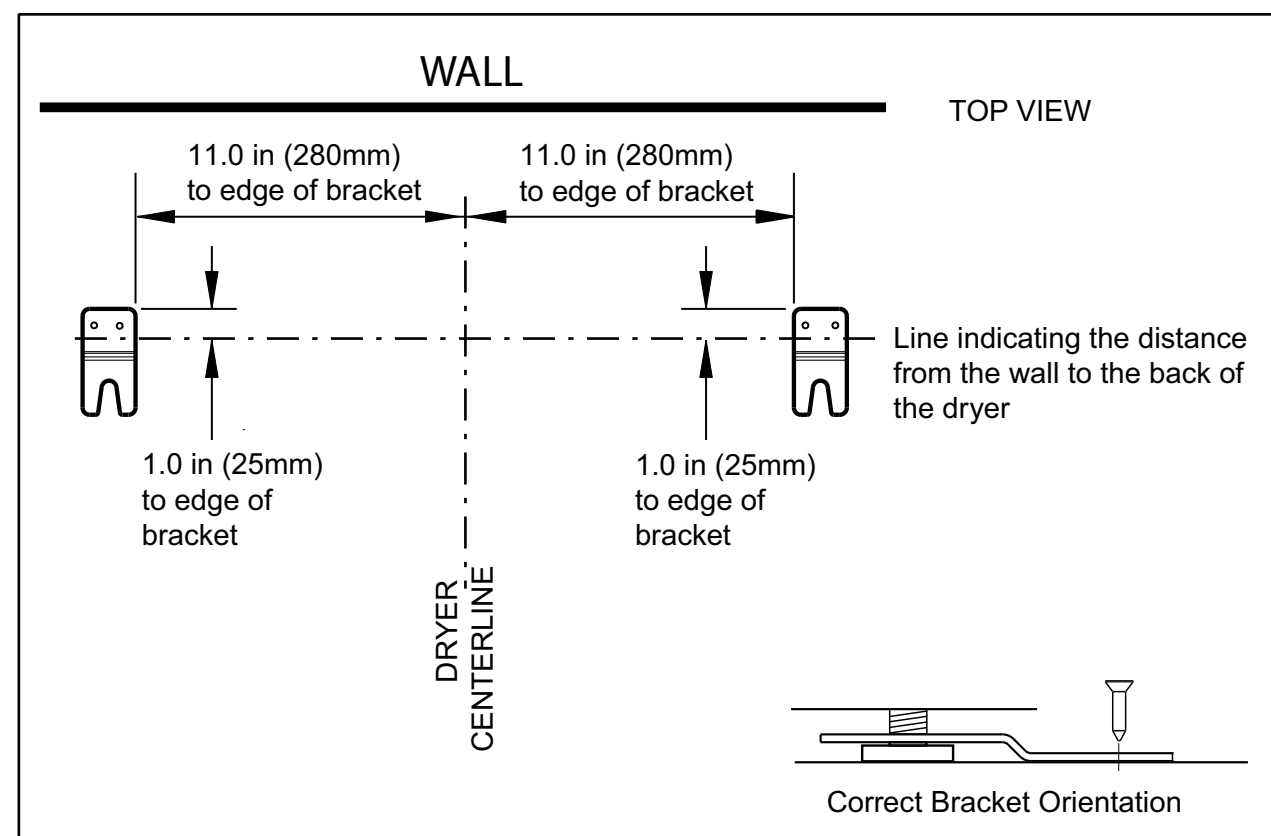

Figure 2
- Using the measurements from Step 4, install (2) 0030101225 Hold Down Brackets as shown in Figure 2 using (4) 0030101240 #10 X 1/2" Wood Screw. Note the correct bracket orientation.